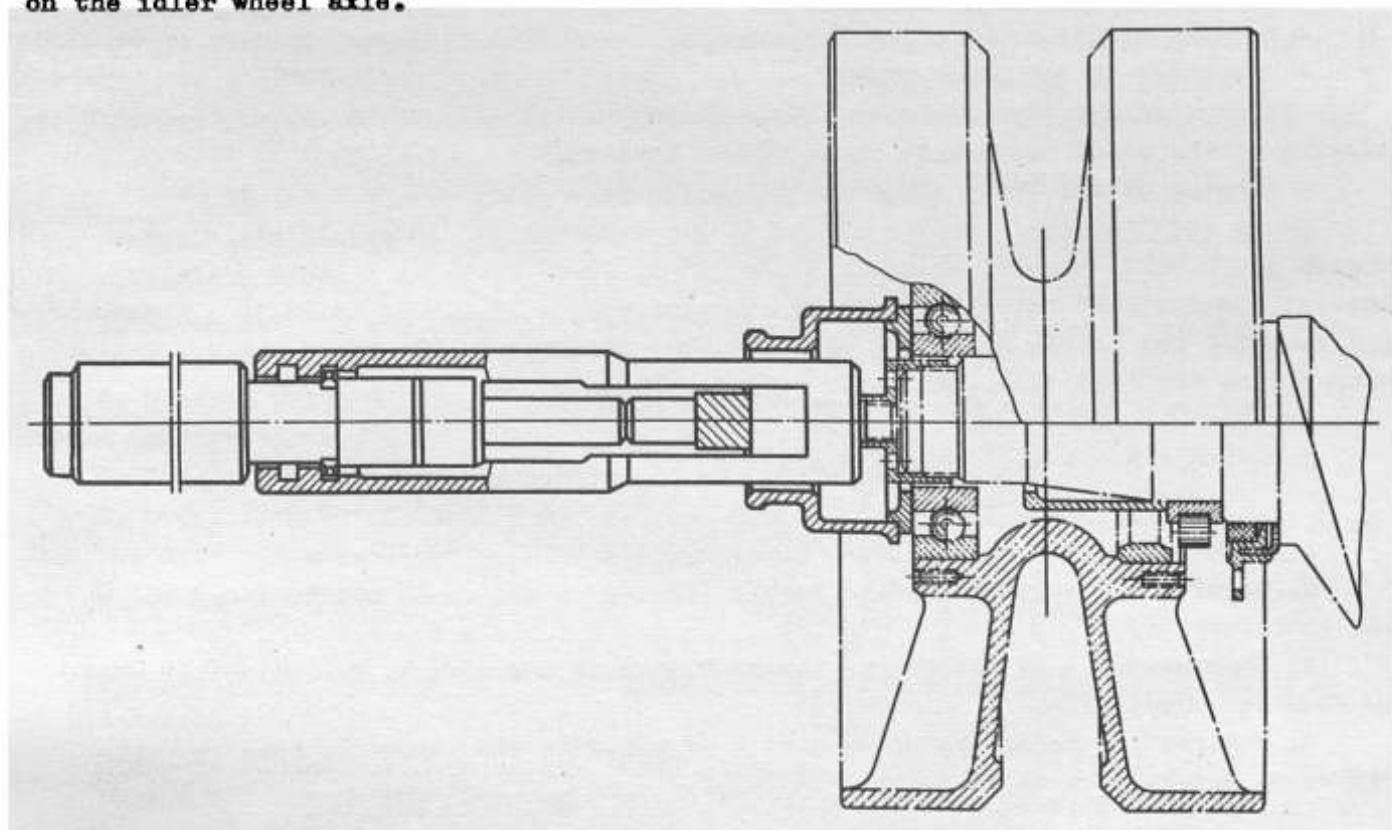

FIG.5. MOUNTING FIXTURE YK-8A FOR PRESSING ON THE IDLER WHEEL
4. Mount the idler wheel assembly on the crank axle and install (Fig.5) fixture YK-8A, press-fit the idler wheel on the crank axle, and remove the fixture.